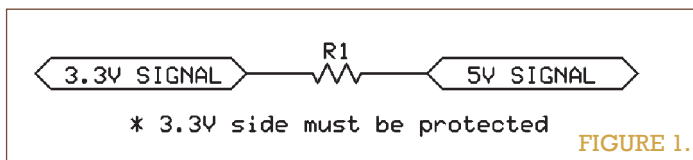

FIGURE 1.
Figure 1 shows a series resistor interfacing 5V and 3.3V devices. The value of R1 could vary if you know the current capability of the clamping diodes on your device. To be safe, you could use a 10K resistor. However, larger resistors limit the bandwidth of the signal across them. With higher bandwidth signals, you will need to reduce the size of the resistor. You probably won't go below 1K on most devices.
■ FIGURE 1. *Virtual Serial Port Cookbook*.